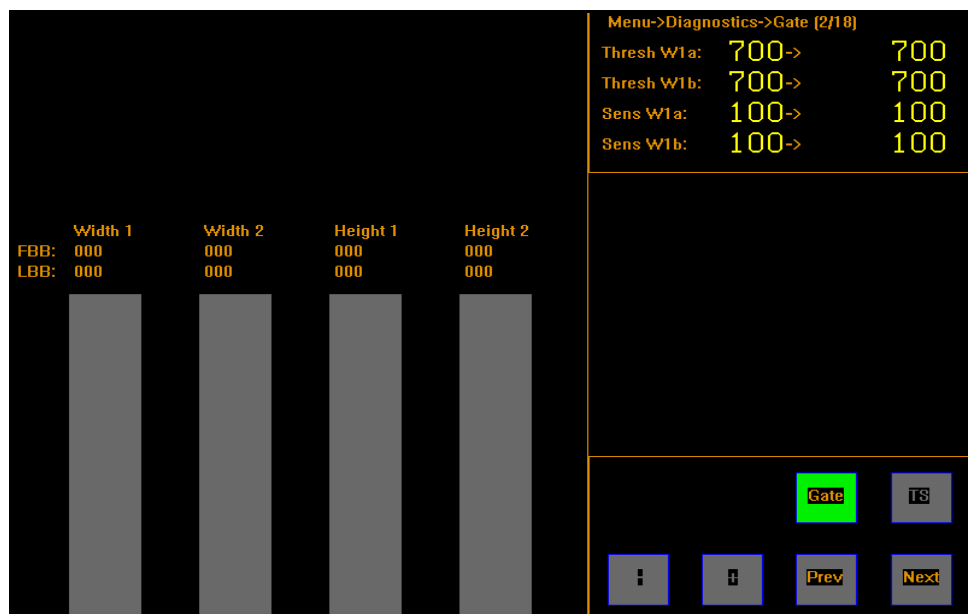

Figure 72
LED beam bars are gray when no light beams are being broken (as seen above in Figure 72), which typically means that there is no object in the CubiScan 225's measurement range.
- If all LED sensors are functioning properly, the LED beam bars should be all gray, with no yellow lines visible (as shown in Figure 72).